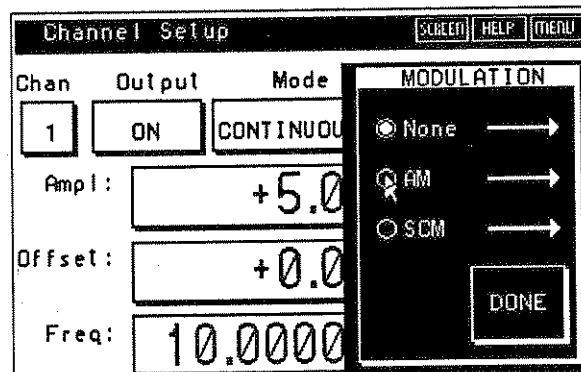

Figure 2-19. Modulation
9. **Modulation Check.** Select the Mode field and choose CONTINUOUS. Select the Amplitude field, and change to 5Vp (5 ENTER via keypad). Move the mouse pointer to the MENU button and click the left mouse button. Press the "soft" key next to MODULATION. See figure 2-19. Click on AM in the dialog box. End by selecting DONE.